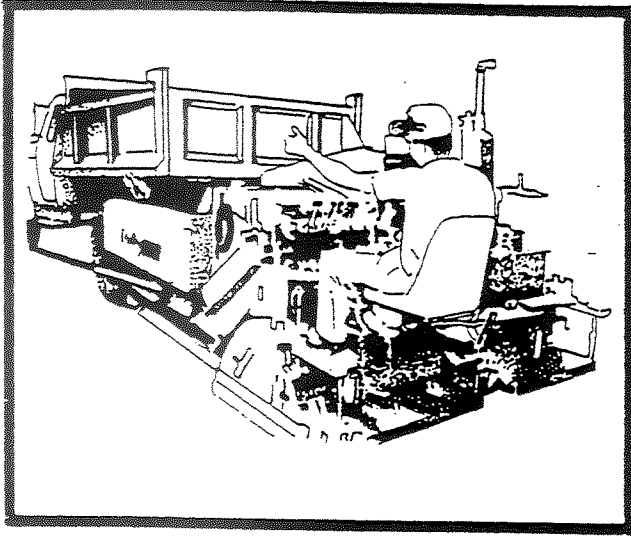

FIGURE 20
- D. It is the operator's job to guide the truck up to the paver and signal the driver when and how much to dump into the hopper. Truck drivers must maintain a light pressure on his brakes to keep truck from dumping material on the roadway. See figure 20. If your paver is equipped with a truck hitch, the truck driver will not be required to maintain pressure on the brake. See page 10, figure 7.